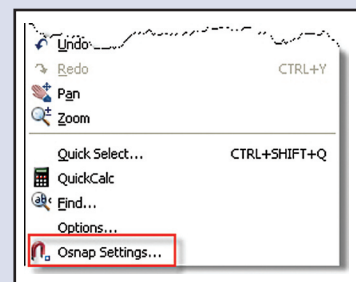

Figure 9
- The Osnap choice is now there. *See Figure 9*